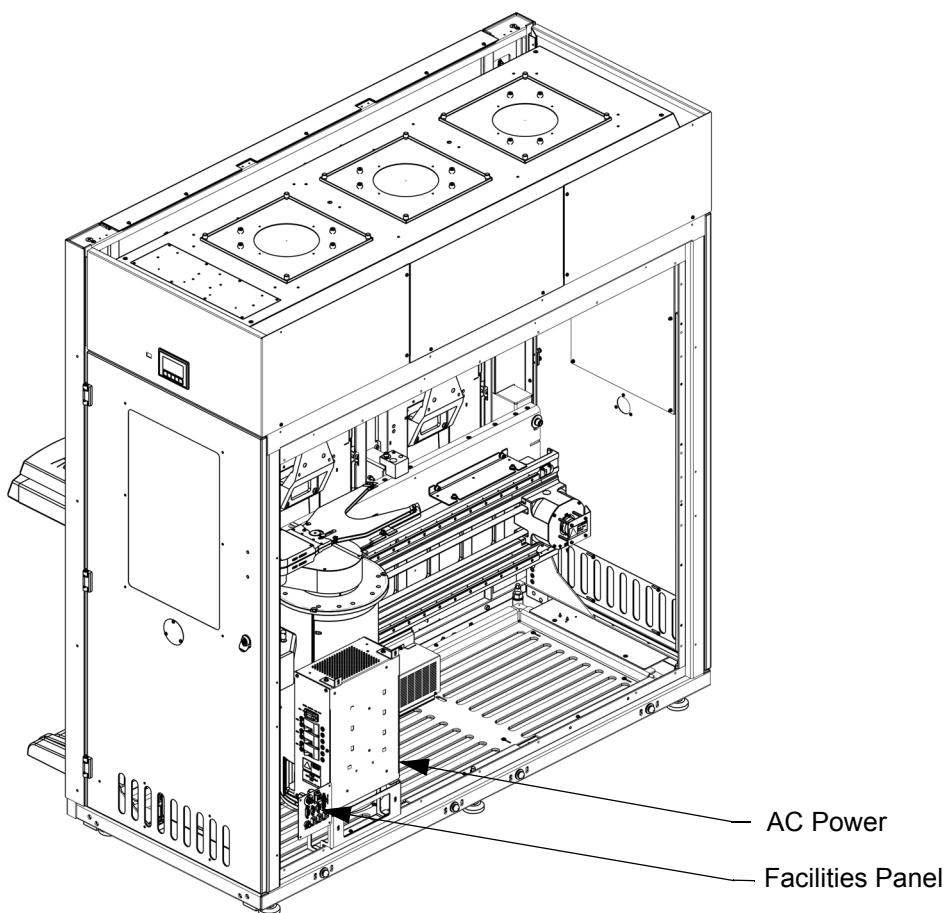

Figure 4-11: Facilities Connections (Rear covers removed for clarity)
The standard configuration of the Jet system requires electrical power, vacuum, and communication connections. These facilities connections are typically made to the Jet system at the Facilities Panel and to the Power Distribution Unit inside the EFEM. See Figure 4-11.
Electrical power is connected to the Jet system for operation of the robot, load ports, sensors, and other subsystems. An AC electrical connection is provided on the Jet system's Power Distribution Unit, located in the rear of the system as shown in Figure 4-11.
2. Connect the power cable from the main power disconnect of the facility to the power connector on the PDU as shown in Figure 4-11.
The standard configuration of the Jet system is designed to use 10/100 Mbps Ethernet communications with a Host Controller. The following procedures provide the information required to make all communications connections to the Jet system as shown in Figure 4-11.